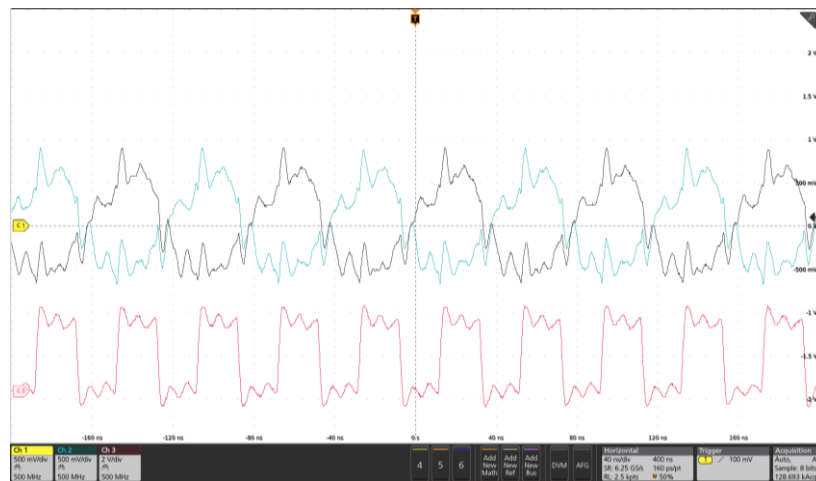

Figure 23. Oscilloscope Screen Showing the Correct Waveforms (High Bandwidth)
13. Verify a 25 MHz clock is present on CLKO as shown in Figure 23 (channel 3, red). The signal quality is limited by the pogo spring-contact pin; what is important is that the frequency is 25 MHz and the amplitude is roughly 3.3 V_{pp}. If a high-bandwidth oscilloscope is not available, an oscilloscope with a bandwidth of about 10 MHz can still be used, as long as the frequency and amplitude can still be meaningfully compared to a reference EVB (as in Figure 24).
14. Verify signals on the SPE outputs Line+ and Line− are present as shown in Figure 23 (channels 1 and 2, black and blue). As with the clock output, the exact signal quality is not important; the frequency must however be exact (25 MHz) and the amplitude roughly 1 V_{pp}. Line+ and Line− must both be present as differential signals. If either is missing or they are not the opposite of each other, reject the board.